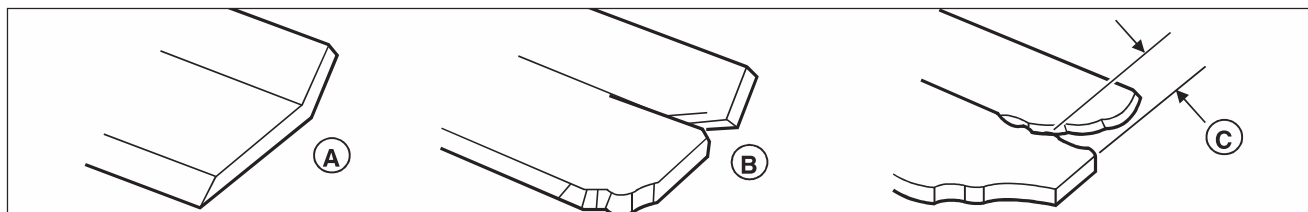

Figure 31. Inspecting the Mower Blade Air Lifts
- B.) The air lifts are excessively eroded (B & C, Figure 31) and the notch (C) is .25" (6,35 mm) deep or greater.